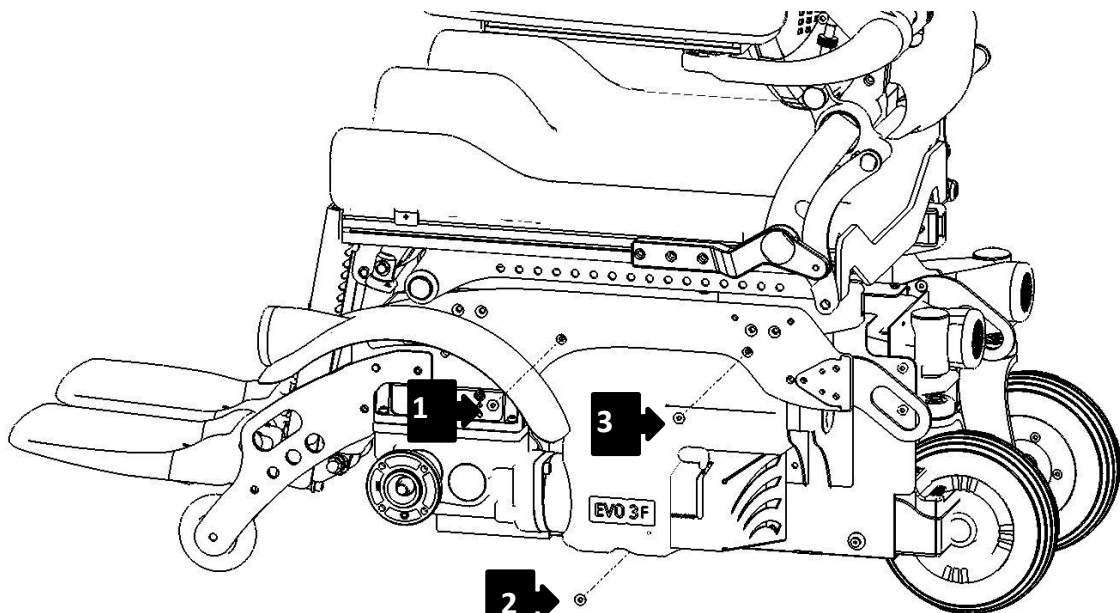

Figure 51
Seeing Figure 51, remove the screws (1), (2) and (3) and remove the lateral cover.